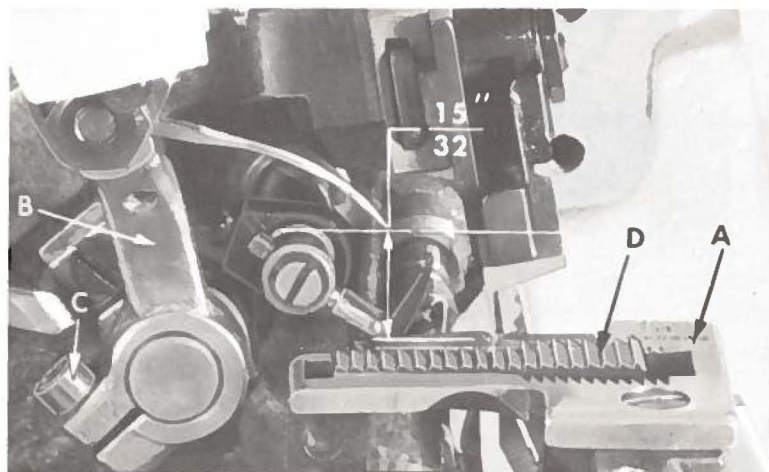

Fig. 3
With the throat plate assembled in position, needle should center in the front end of needle slot. When needle is at high position, needle point should be set $15/32$ inch above the throat plate (A, Fig. 3). To align the needle or set the height above the throat plate, move needle driving arm (B) by loosening clamp screw (C). After needle has been properly set, tighten clamp screw and remove throat plate.
Now assemble the feed dog (D, Fig. 3)